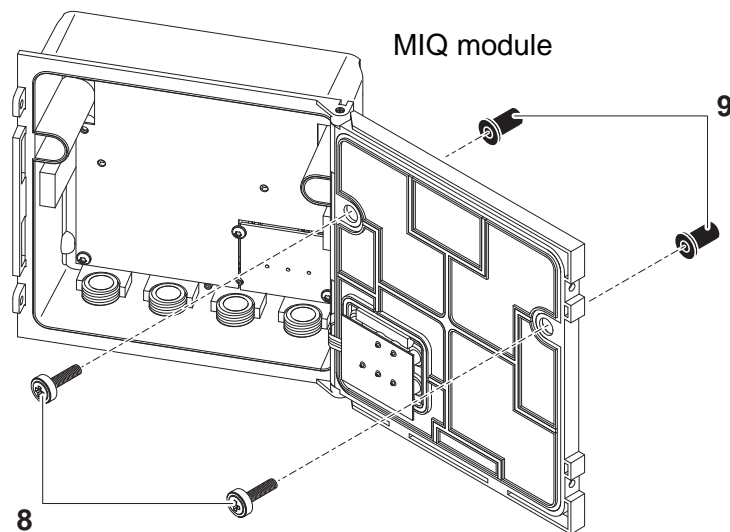

Fig. 3-9 Premounting the ISO blind nuts (variant 2)
- 6 Insert the cheese-head screws (pos. 8 in Fig. 3-9) with the plastic washers in the drilled mounting holes in the module lid and loosely screw in the ISO blind nuts (pos. 9).
- 7 Attach the prepared MIQ module to the back of the DIQ/S 182-XT-4-MOD. At the same time, ensure that the two clips on the DIQ/S 182-XT-4-MOD click into place in the lid of the MIQ module. Subsequently, tighten the two screws (pos. 8 in Fig. 3-9).